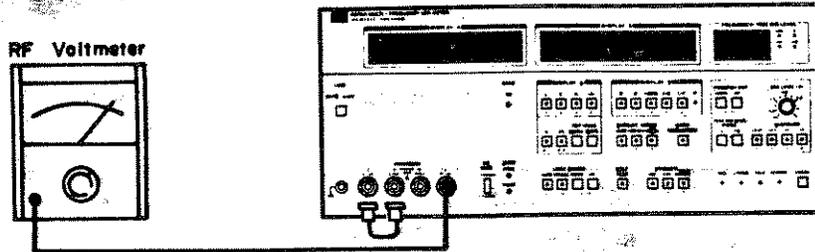

Figure 4-2. Test Signal Level Variable Range Test Setup.
2. Connect BNC to BNC cable to 4274A UNKNOWN H\_CUR terminal and to RF volt-meter input as shown in Figure 4-2.